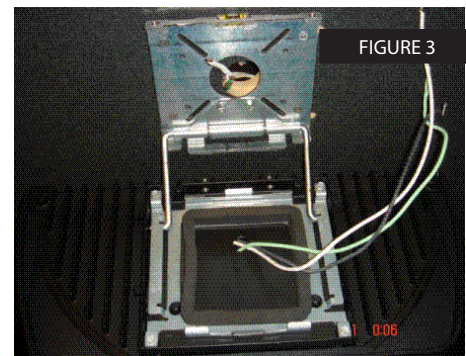

FIGURE 3
4. Slide fixture down and align so that the fixture is straight and let fixture hang off the integral support rods. (See figure 3). Protect the fixture surface from the wall surface so as not to scratch or mar the fixture finish.